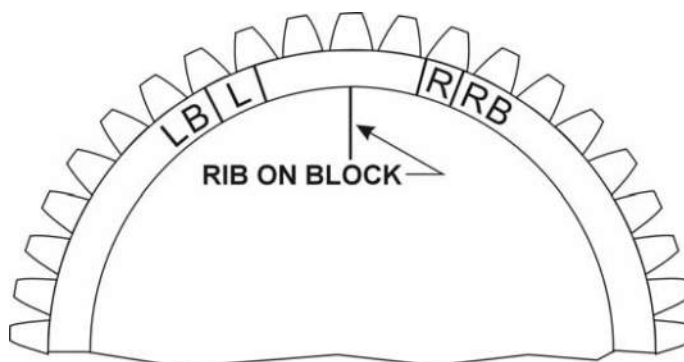

Figure 5-2. Timing Marks – 6 Cylinder –1200 Series
- (1) Remove a spark plug from No. 1 cylinder and place a thumb over the spark plug hole. Rotate the crankshaft in direction of normal rotation until the compression stroke is reached, which is indicated by a positive pressure inside the cylinder tending to push the thumb off the spark plug hole. Continue rotating the crankshaft until the advance timing mark on the front face of the starter ring gear is in alignment with the small hole located at the two o'clock position on the front face of the starter housing. (Refer to Specification chapter or to engine nameplate for designated number of degrees of spark advance.) At this point, the engine is ready for assembly of the magnetos.
- (2) *Single Magneto* – Remove the inspection plugs from both magnetos and turn the drive shaft in direction of normal rotation until (-20 and -200 series) the first painted chamfered tooth on the distributor gear is aligned in the center of the inspection window (-1200 series) the applicable timing mark on the distributor gear is approximately aligned with the mark on the distributor block. See Figure 5-2. Being sure the gear does not move from this position, install gaskets and magnetos on the engine. Note that an adapter is used with all magnetos. Secure with (clamps on -1200 series) washers and nuts; tighten only finger tight.
- (3) Using a battery-powered timing light, attach the positive lead to a suitable terminal connected to the switch terminal of the magneto and the negative lead to any unpainted portion of the engine. Rotate the magneto in its mounting flange to a point where the light comes on, then slowly turn it in the opposite direction until the light goes out. Bring the magneto back slowly until the light just comes on. Repeat this with the second magneto.
- (4) Back off the crankshaft a few degrees; the timing light should go out. Bring the crankshaft slowly back in direction of normal rotation until the timing mark and the hole in the starter housing are in alignment. At this point, both lights should go on simultaneously. Tighten nuts to specified torque.
- (5) *Dual Magnetos* – Place the engine in the No. 1 advance firing position as directed in paragraph 1b(1).
- (6) Install the magneto-to-engine gasket on the mounting flange.